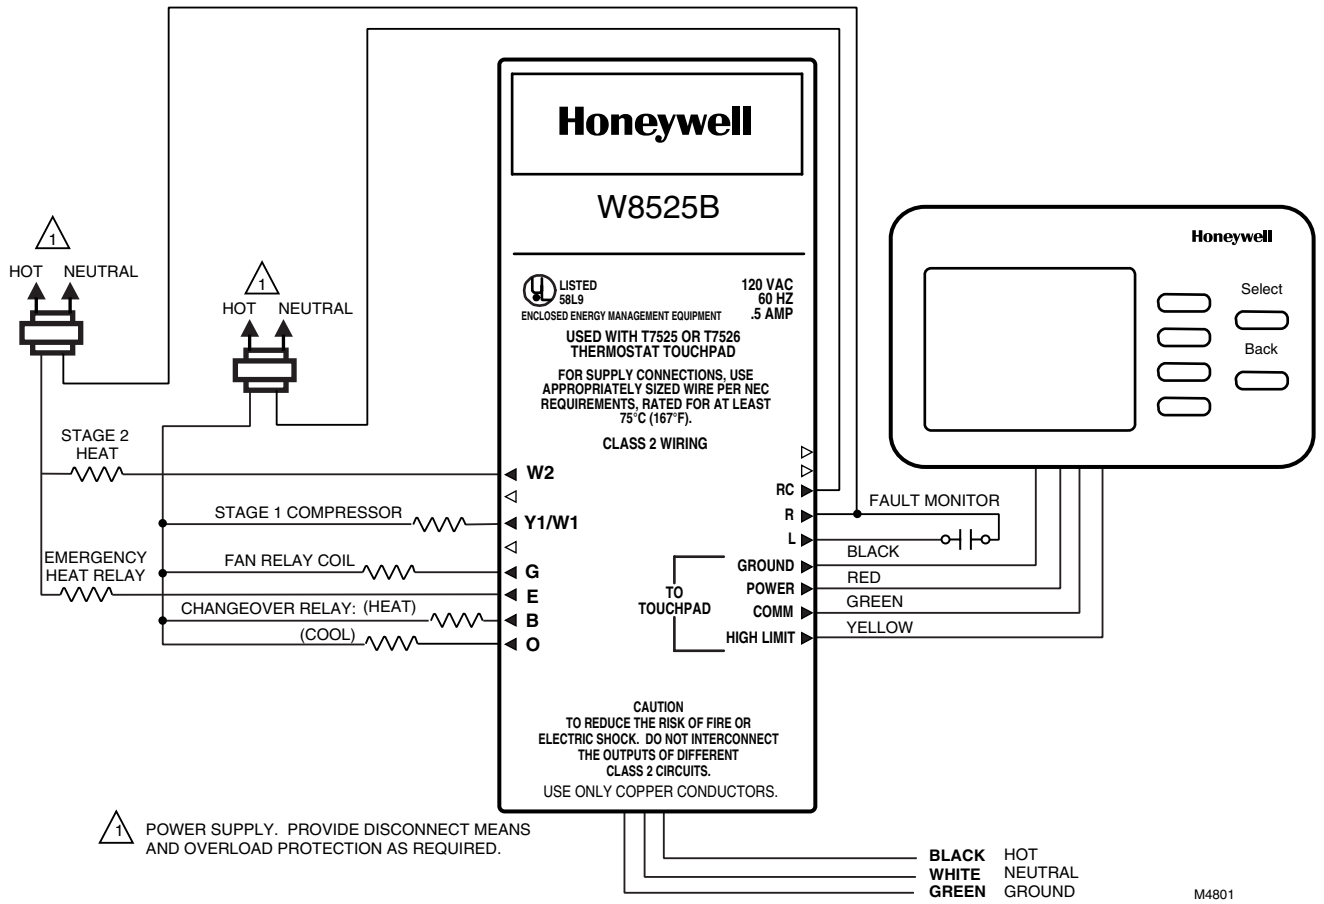

Fig. 3. W8525A,B Control Module heat pump HVAC wiring.
- I Connect the four wires from the Touchpad Thermostat and the wires from the HVAC equipment to be controlled to the two terminal strips as shown in Figs. 3 and 4.